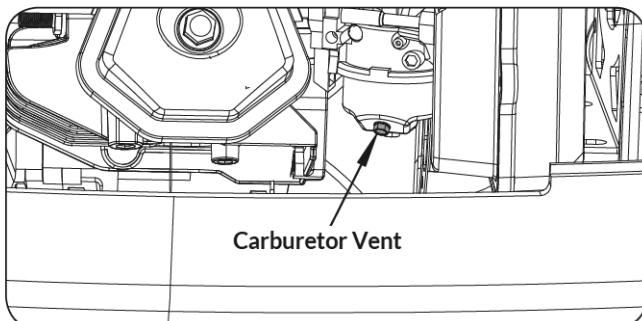

Figure 78
2. Unscrew the bolt at the carburetor vent port to drain the water or gas from the fuel. (See **Figure 78**)